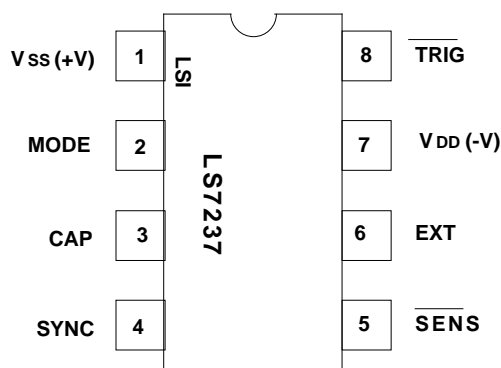

FIGURE 1
- 8-Pin Plastic DIP, 8-Pin SOIC-See Figure 1